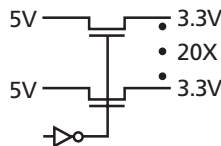

Figure 2-4 • Bus Switch IDTQS32X2384
2. 5V tolerance can also be achieved with 3.3V I/O standards (3.3V PCI, 3.3V PCI-X, and LVTTTL) using a bus-switch product (e.g. IDTQS32X2384). This will convert the 5V signal to a 3.3V signal with minimum delay (Figure 2-4).